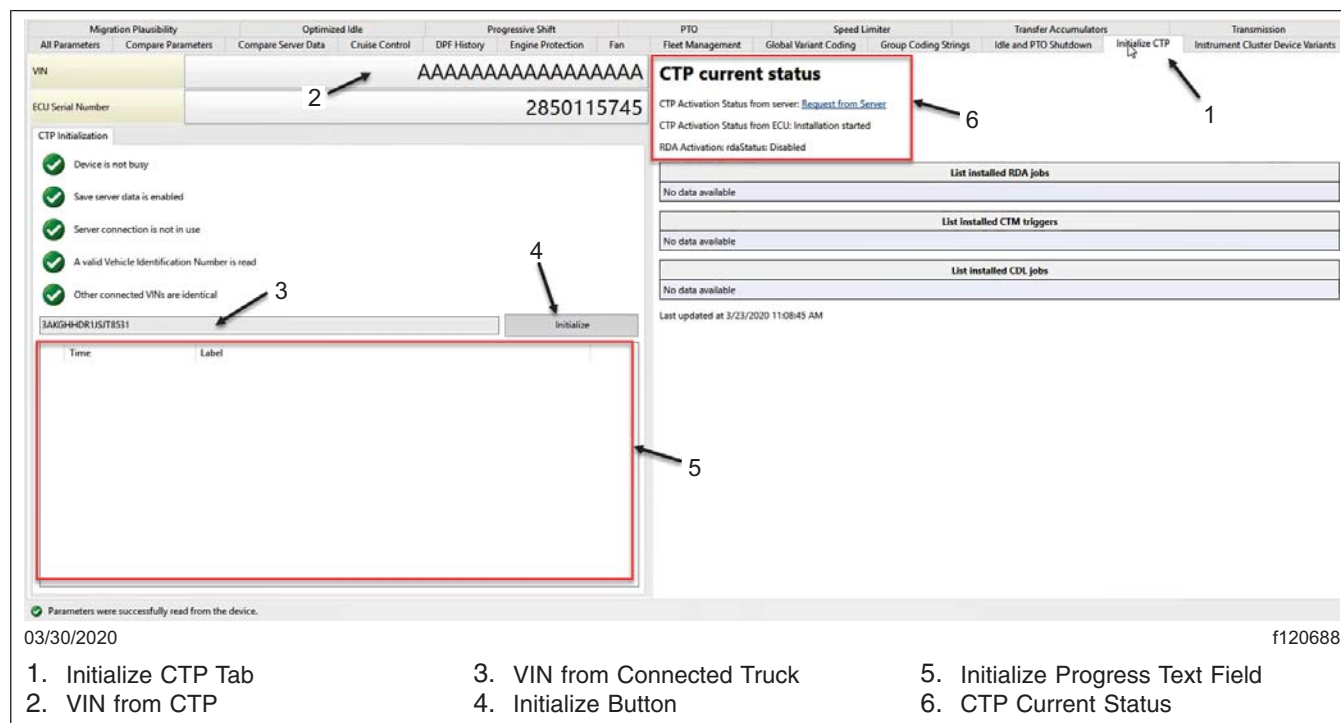

Fig. 3, Initialize Truck Data Center Panel
9. Navigate to "Parameters", allow the parameters to be read, then select the "Initialize CTP" tab. See **Fig. 3**.